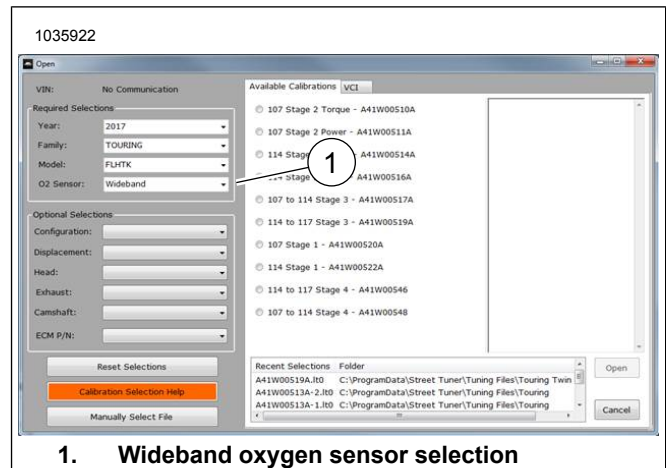

Figure 9. Wideband Oxygen Sensor Selection
24. See Figure 9. Use Screamin' Eagle Pro Street Tuner to complete installation. Download new ECM calibration when installing this kit. When selecting a calibration to download with the Screamin' Eagle Pro Street Tuner, select Wideband (1) from the pull down menu for the oxygen Sensor option. Refer to the Screamin' Eagle Pro catalog or contact a Harley-Davidson dealer for Screamin' Eagle Pro Street Tuner details.